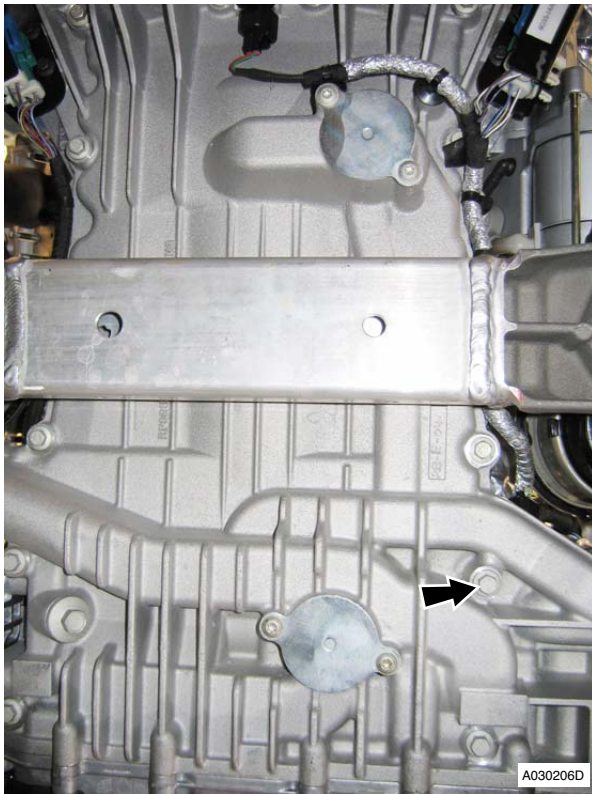

Figure 13
23. Remove bolts (x16) securing sump to engine bedplate (see Figure 13).